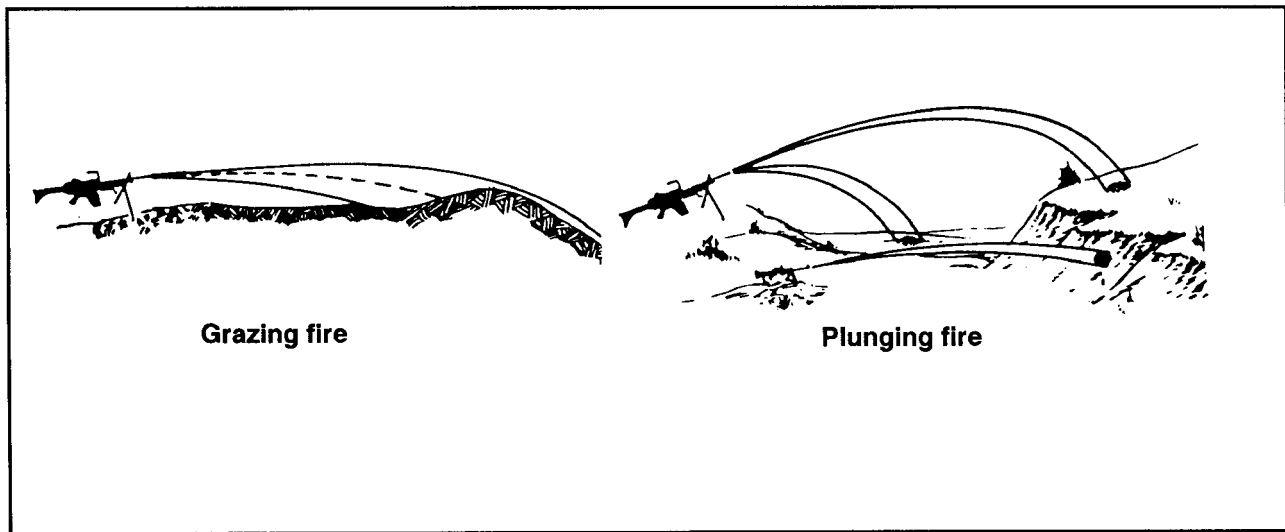

Figure 6-3. Classes of fire with respect to the ground.
a. Fire with respect to the ground (Figure 6-3) includes grazing and plunging fires.